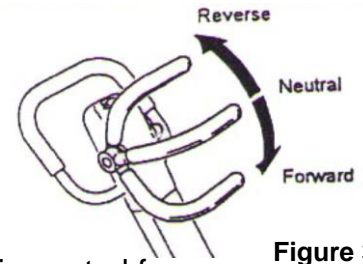

Figure 3
2. Operate travel lever to have compactor travel forward or reverse. Pull lever back for reverse, release lever and level will spring forward causing forward movement and place lever in neutral for vibration in place. (Fig.3)